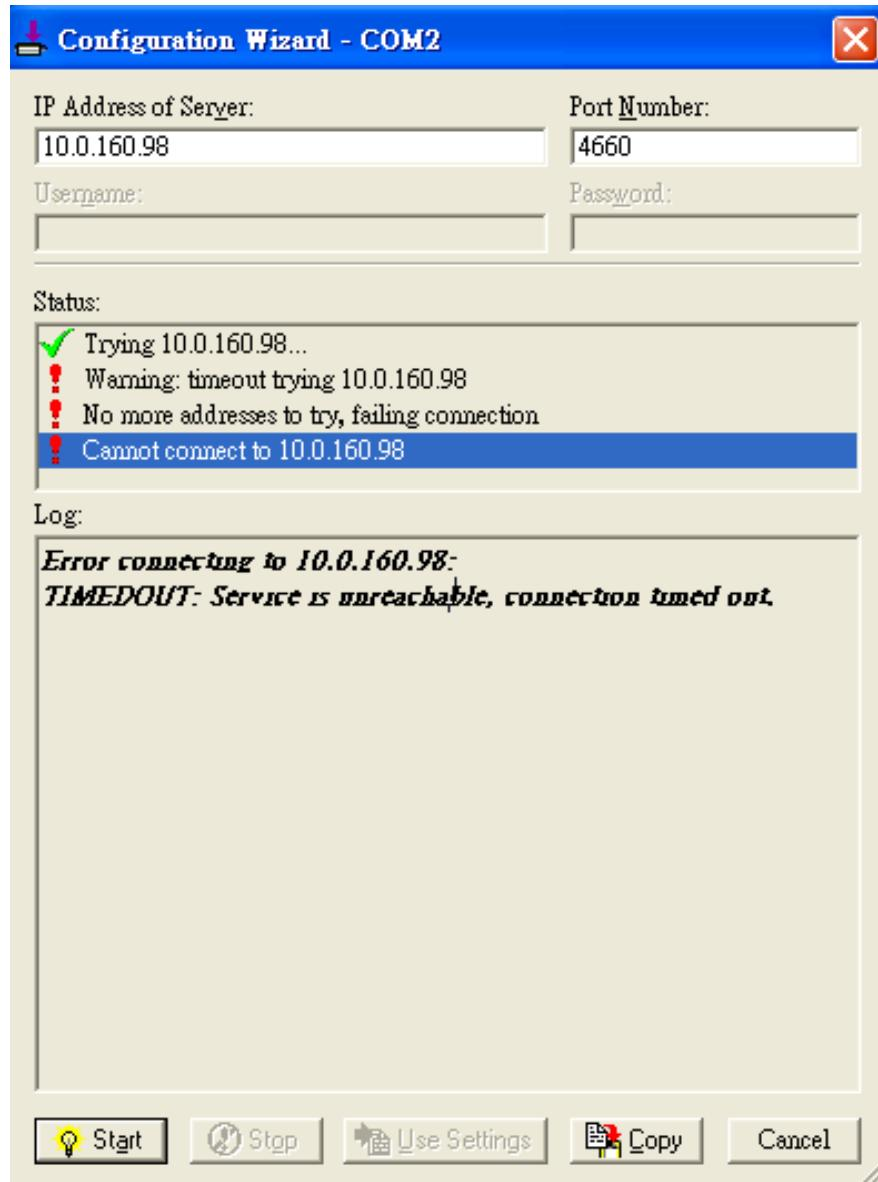

Figure 4.10 Virtual COM Timeout Exception
- If the exclamation mark begins with **Warning: timeout trying x.x.x.x** (Figure 4.10), recheck the Virtual COM IP and Port configuration or the PC's network configuration.